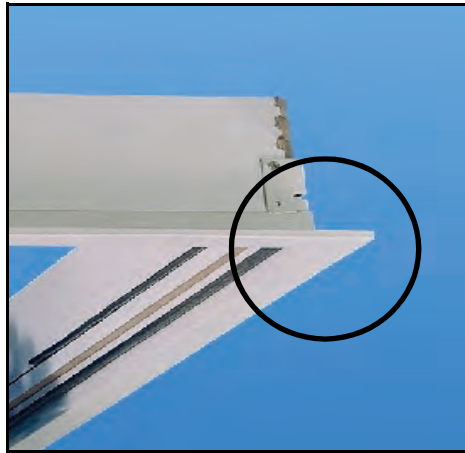

Figure 2
1. Mark out the rough opening size for your unit according to TABLE A. **Note that the finished metal trim extends about 2" beyond the rough opening when the unit is installed (Figure 2). Allow clearance for this on all four sides.**